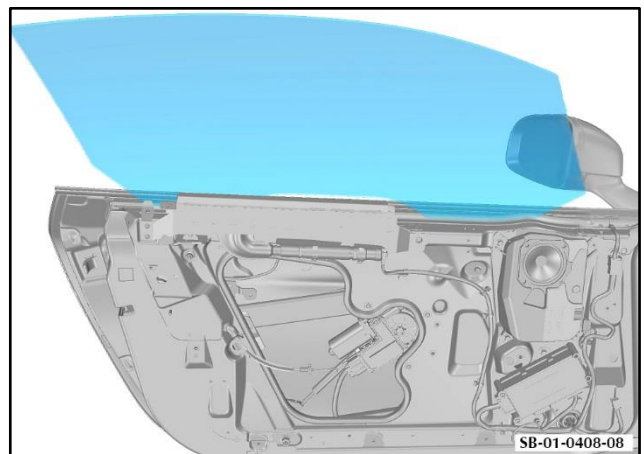

Figure 8
7. Remove the door glass (refer to Figure 8).